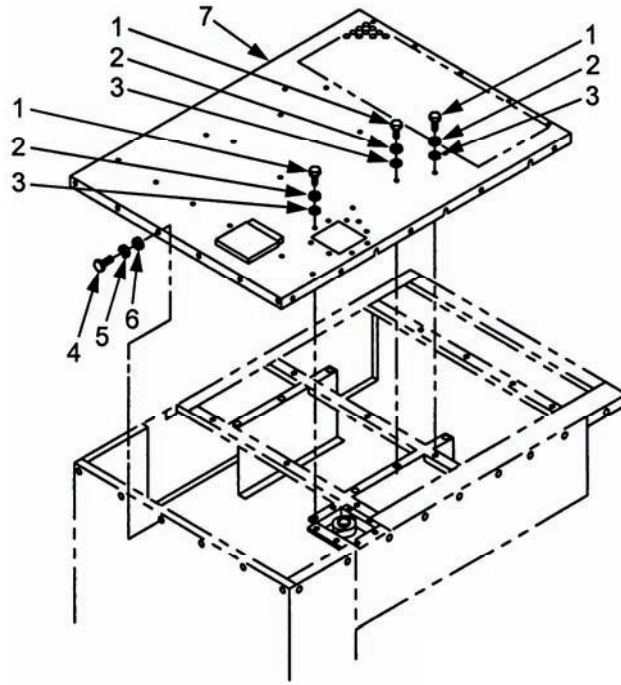

Figure 5-5. Top Housing Panel.
- a. Remove 43 bolts (1 and 4, Figure 5-5), lock washers (2 and 5), washers (3 and 6), and top housing panel (7) from generator set. Discard lock washers (2 and 5).